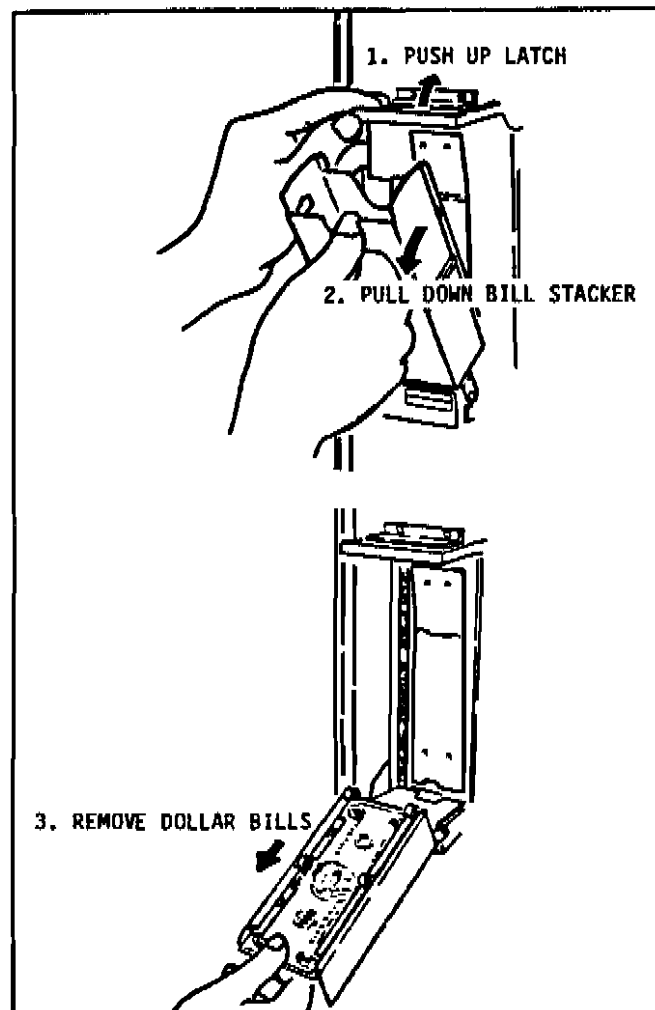

Figure 4-1. Bill Validator - Dollar Bill Removal
- C. Empty the bill validator, see figure 4-1.